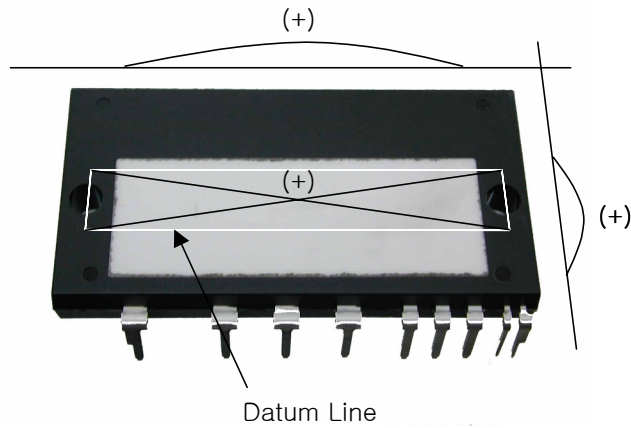

**Fig. 6.  $R_{SC}$  Variation by change of Shunt Resistors ( $R_{SU}, R_{SV}, R_{SW}$ ) for Short-Circuit Protection**
| Sensing Voltage of IGBT Current          | V SEN     | R SC = 56 Ω, R SU = R SV = R SW = 0 Ω and I C = 22.5A (Note Fig. 6) | 0.45   | 0.51 | 0.56 | V    |    |
- Short-circuit current protection is functioning only at the low-sides. It would be recommended that the value of the external sensing resistor (RSC) should be selected around 56 Ω in order to make the SC trip-level of about 22.5A at the shunt resistors (RSU, RSV, RSW) of 0Ω. For the detailed information about the relationship between the external sensing resistor (RSC) and the shunt resistors (RSU, RSV, RSW), please see Fig. 6.